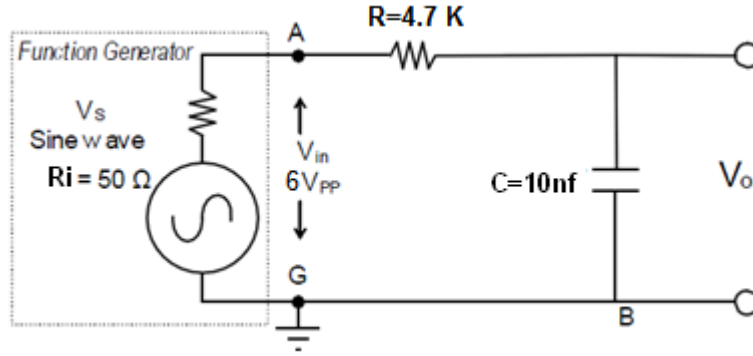

Figure 2
1. Set up the circuit as shown in Figure 2.